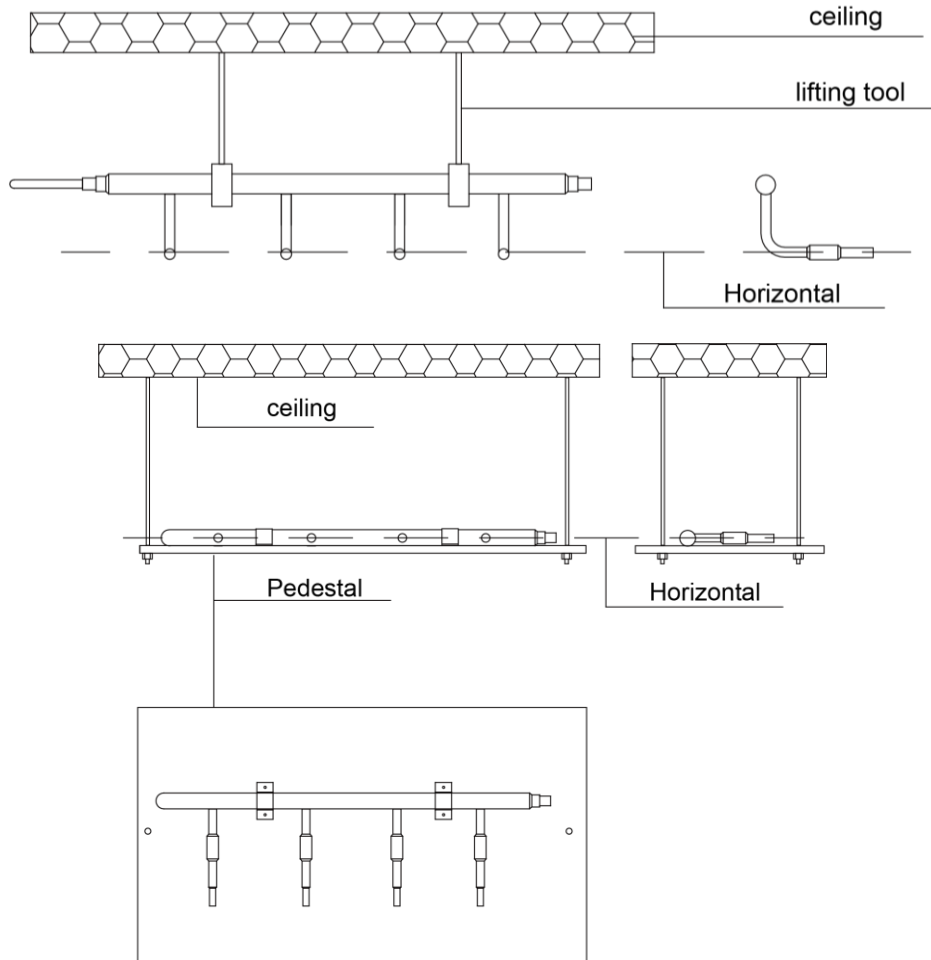

Fig. 4.3.7
- (4) Suspend the header to the ceiling, and be sure to install the T-type manifold so that the outlet pipes are horizontal at the lower side. See Fig.4.3.7.